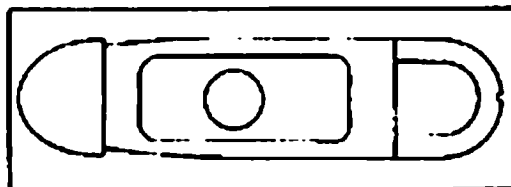

FIG. 8
1/16" die-cut plywood parts (Figure 8)
- Cut the ailerons to length and sand to conform to Figure 8.